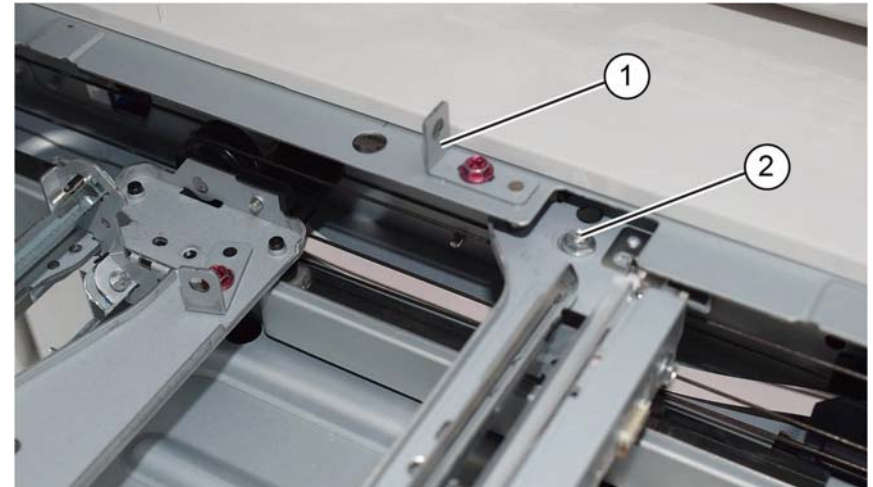

Figure 6 Carriage setting
8. Secure the rear cable to the full rate carriage, **Figure 6**:
- a. Remove the alignment pin from the front of the half rate carriage. Install the alignment pin (1) to the rear of the full rate carriage.
- b. Tighten the rear cable securing screw (5).